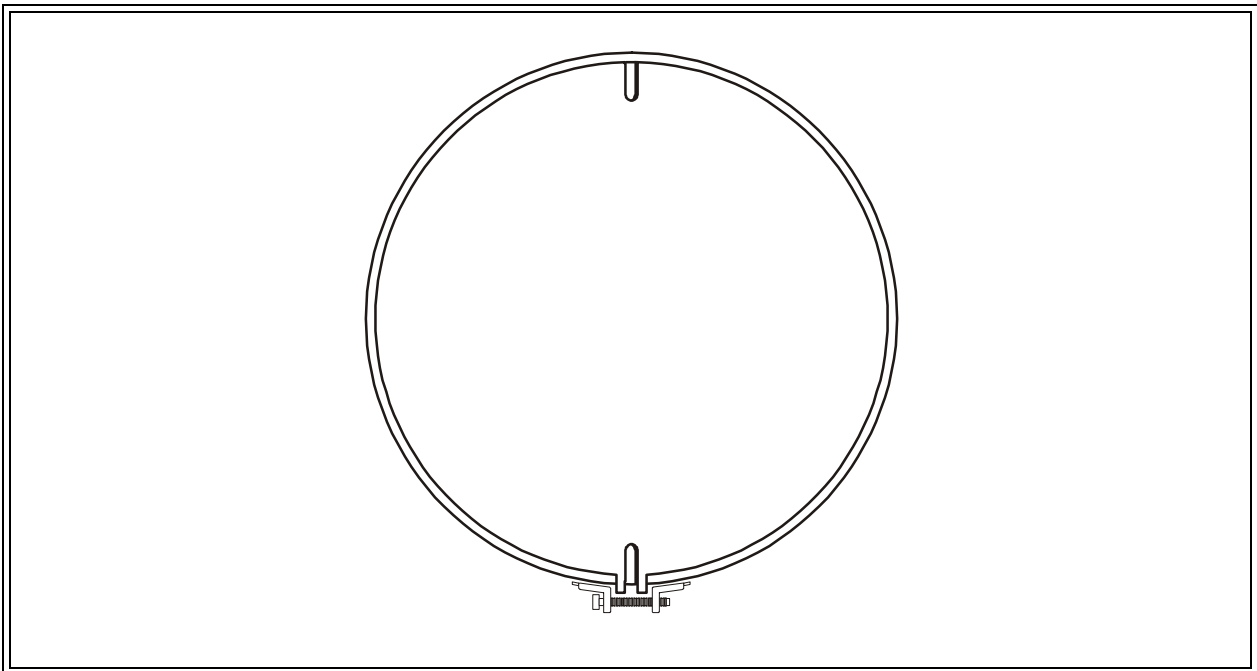

Figure 4-31 Setting Radome Panel Rotation
- 44 Radome Panel Rotation -- Ensure that the radome drain and lock nut are oriented downward for proper drainage (refer to Figure 4-31). When finished, fasten the locking nut(s).